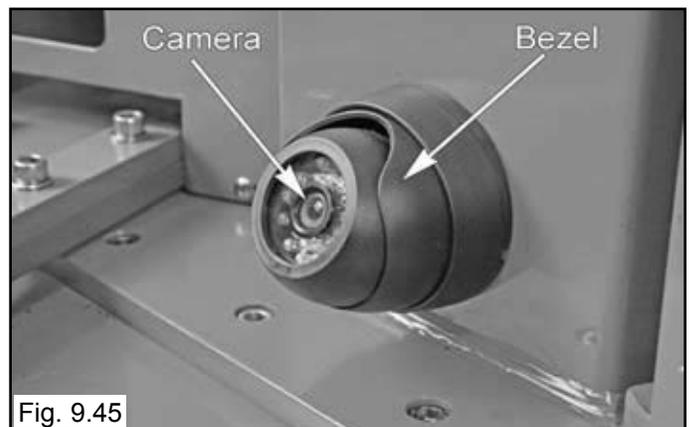

Fig. 9.45
2. The Camera is located at the base of the Tower behind the Center Post. (See Fig. 9.45)